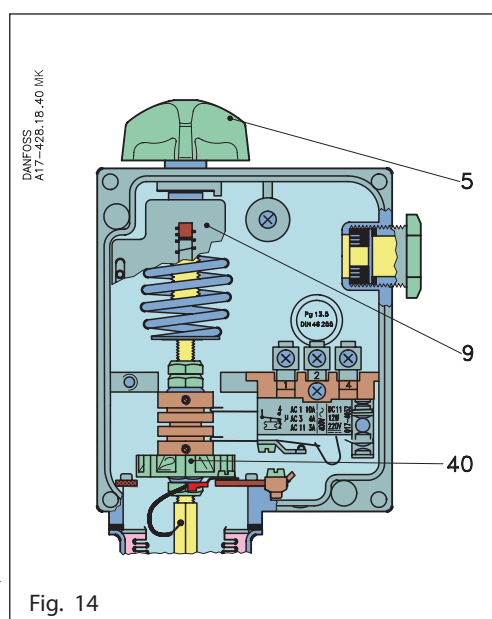
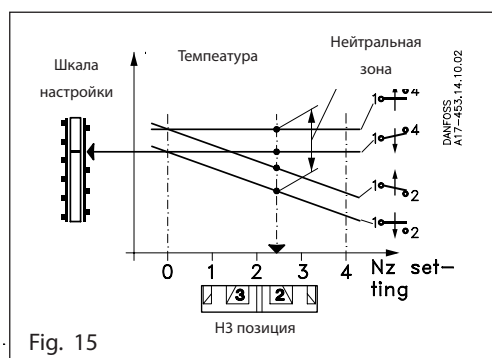
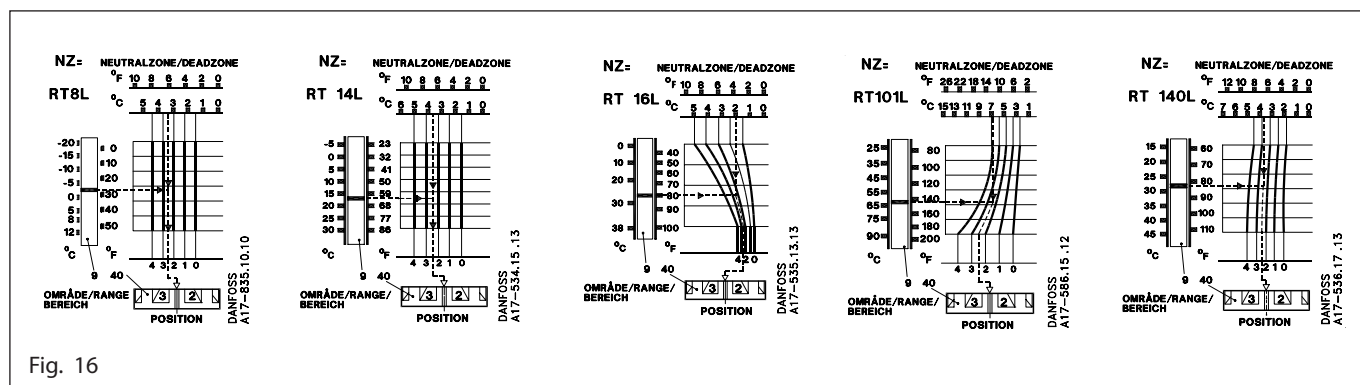

Fig. 14
Fig. 15
Fig. 16
The range is set using the setting knob (5), fig. 14, while reading the main scale (9). The set value is the break temperature for contacts 1-4, fig. 15. The required neutral zone can be found in the diagram for the unit concerned, fig. 16. The position at which the neutral zone disc (40) must be set can be read from the low scale in the diagram.
Using the setting knob, set the thermostat on 24 °C. The dotted lines in the diagram for the RT 16L fig. 16 intersect each other on the curve for position 2.8 and the neutral zone setting disc (40) must be set to that position.